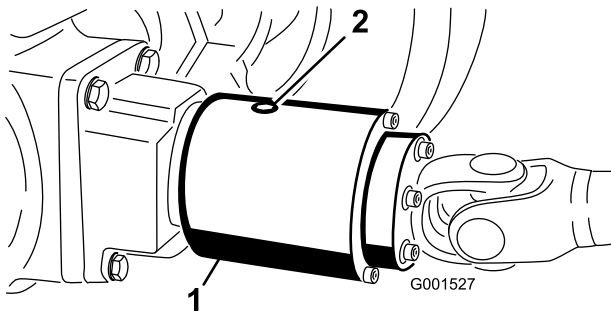

Figure 20
2. Rotate the clutch (Figure 20) so that the check plug (shown in the 12 o'clock position) is positioned at 4 o'clock
3. Rotate the clutch so that the check plug is positioned downward (Figure 20).